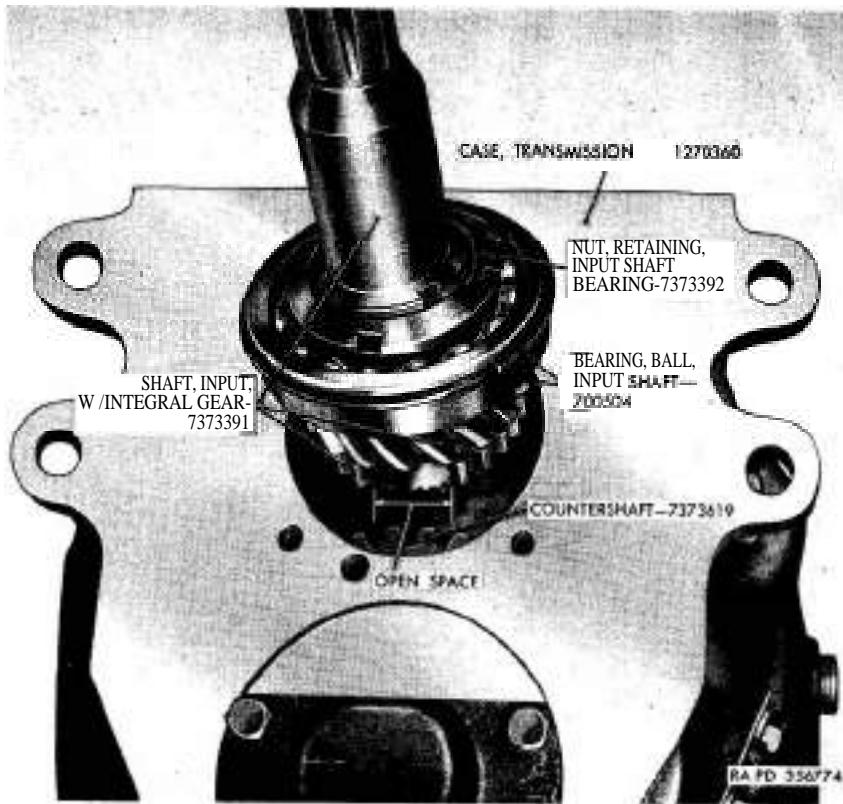
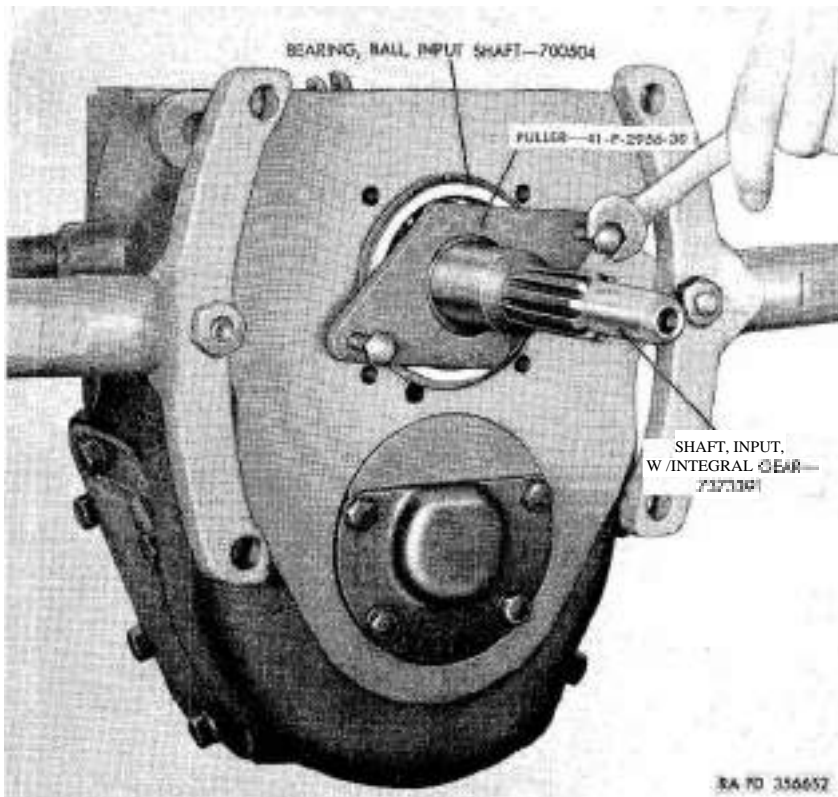

Figure 98. A linement of gear teeth for removal of input shaft.
Figure 99. Removing input shaft and bearing.
- (1) Position input shaft so that open space of clutch gear teeth will be in line with countershaft gear teeth (fig. 98). This is necessary to prevent interference between the gear teeth on the input shaft and countershaft. Install puller 41-P-2956-30 (fig. 99) on threaded portion of input shaft. Pull shaft and bearing from transmission case by tightening the two puller cap screws. Remove puller from shaft.
- (2) Remove main shaft pilot bearing (AA) from gear end of input shaft.